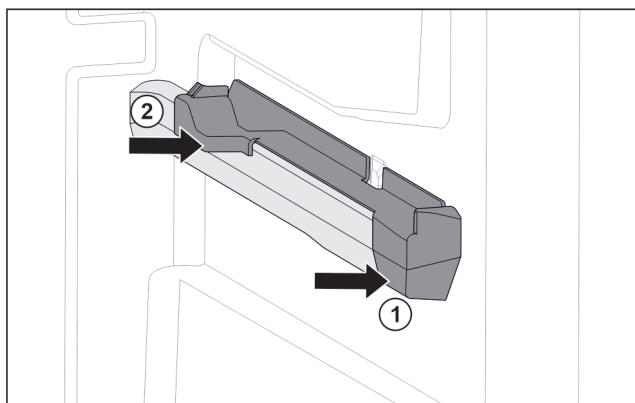

Fig. 62 Attachment on the right moulded rib
- Position attachment on moulded rib at the front. Fig. 62 (1)
- Press on attachment at the back. Fig. 62 (2)